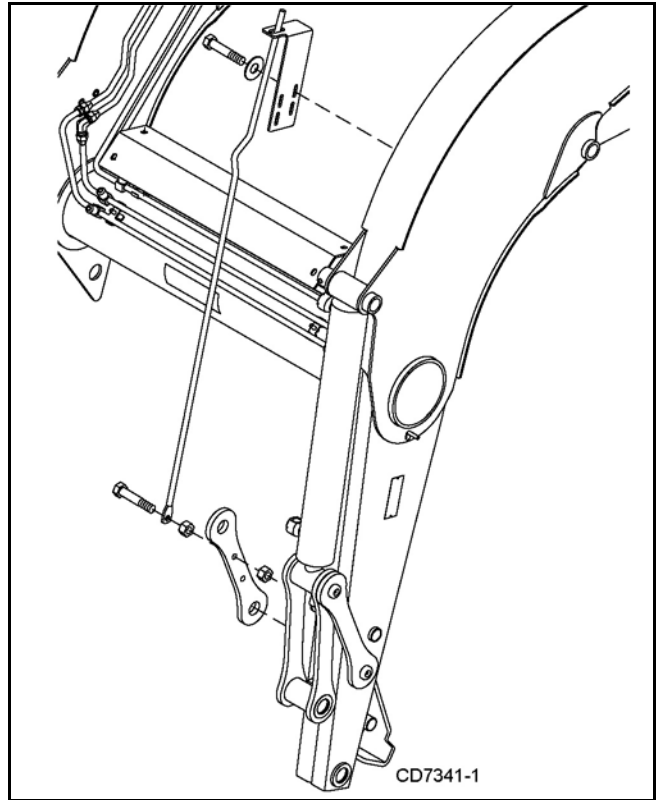

Figure 39. Bucket Level Indicator Installation
3. Attach other end to hole in inner guide link and with hardware provided. See Figure 39 and Figure 40.